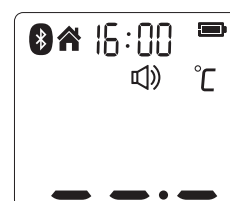

Figure 4
1. Press the *Test Button* to turn on the thermometer, you can take the object temperature after hearing voice. (see figure 4)